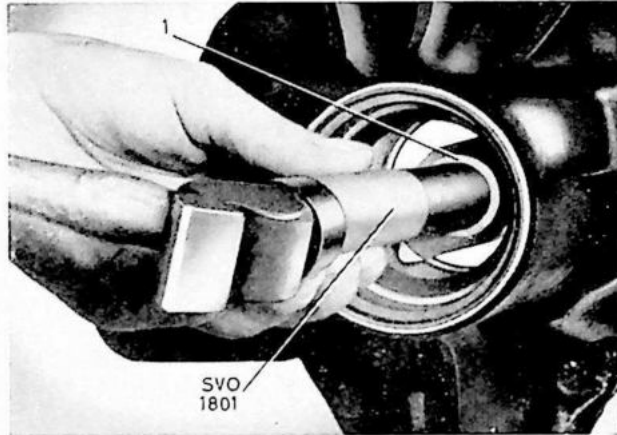

Fig. 10. Removing bearing ring.
5. If necessary, drive out the bearing outer rings, see fig. 10. Use SVO 4063 for the front and SVO 4064 for the rear bearing ring together with standard handle SVO 1801. Preserve the shims (28).